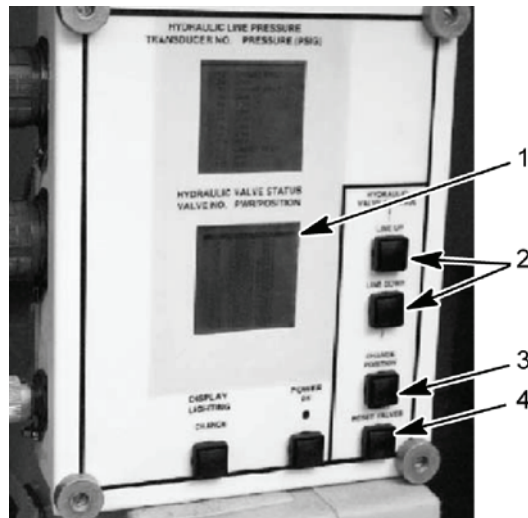

Figure 64. HDC Control Box
- Reset all HDC solenoid valves by selecting the RESET VALVES button (Figure 64, item 4) on the HDC control box.
- Using LINE UP or LINE DOWN button (Figure 64, item 2) on the HDC control box, select V4 on the HDC display (Figure 64, item 1). Using the CHANGE POSITION button (Figure 64, item 3), close V4 on the HDC display (Figure 64, item 1). Repeat steps for V7 and V8; closing V7 and opening V18.